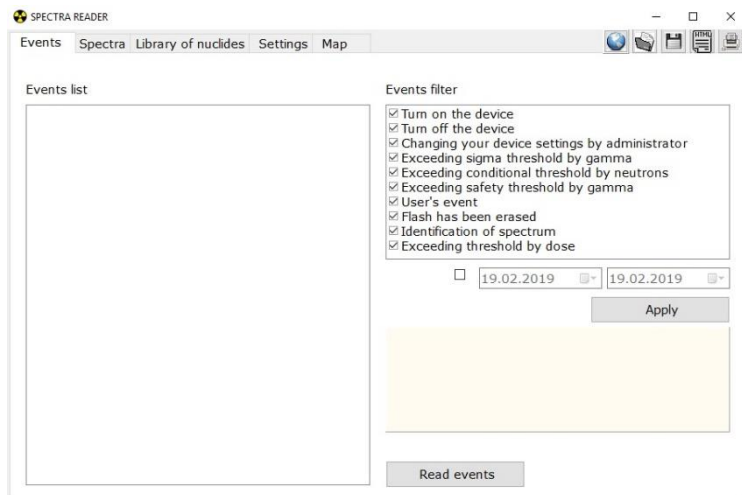

Figure 35 – "Events" tab
- **List of events** - this field displays the list of events downloaded from the device during the last readout session (Fig. 35);